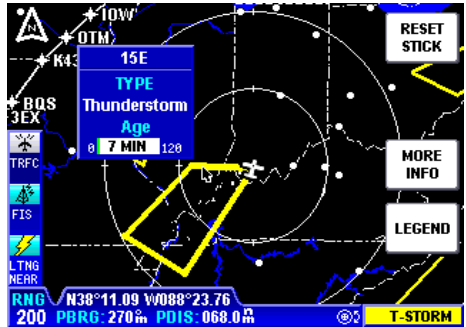

Figure 2-44
3. To view a specific Convective SIGMET, move the joystick in the desired direction and place the pointer on the desired Convective SIGMET border (see Figure 2-44). A box will pop up containing the Convective SIGMET designator, **TYPE** and the **AGE** of the report.